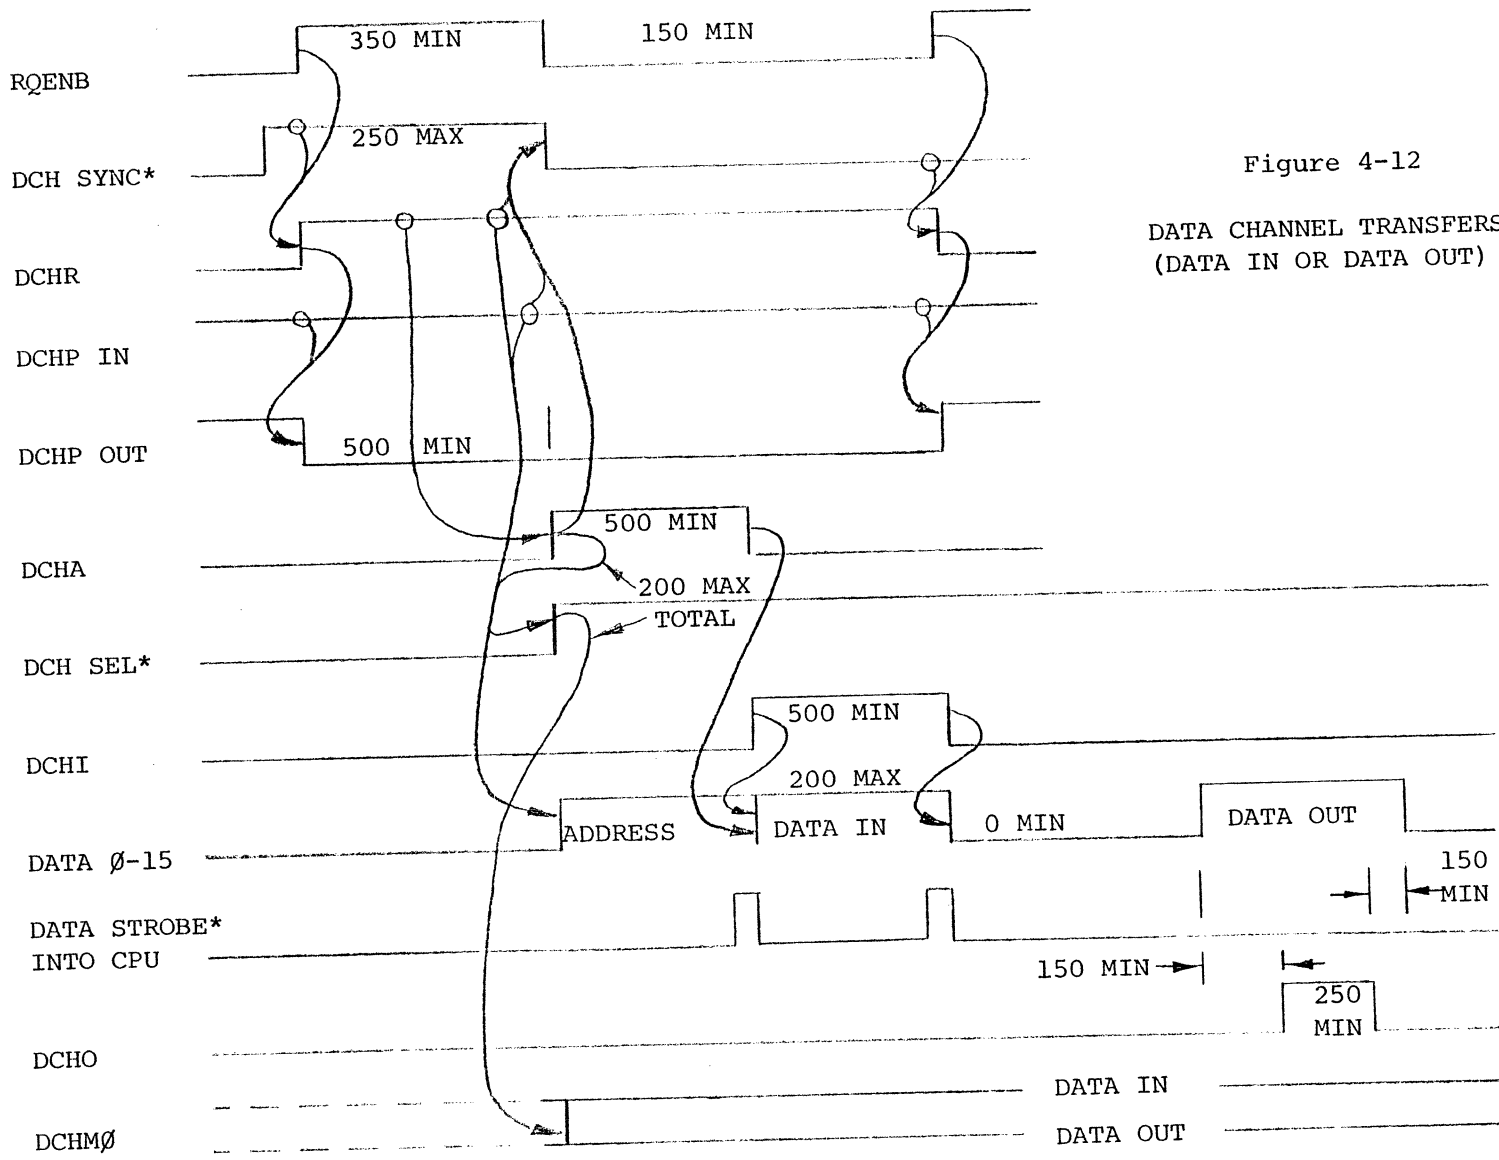

Figure 4-12
4.33 DATA CHANNEL TRANSFERS (Figure 4-12). Not all events associated with a data channel transfer actually occur in the processor cycle devoted to it: there is overlap so preliminary events occur in the preceding cycle, which may be the final cycle of an instruction or another data channel cycle. In all cases a memory address is sent into the processor in the preceding cycle which is extended while the data is transferred. Transfer operations within the processor cycle officially designated as the data channel cycle for the given access occur only if a word is sent out. The events associated with a data channel request are similar to those of an interrupt request. The DCHP signal